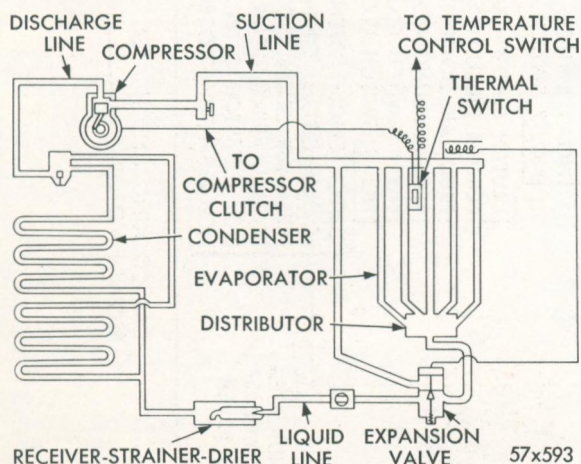

Fig. 9—Heater Air Conditioning
1. Compressor clutch and water valve heating element will be energized (Figs. 9 and 10).